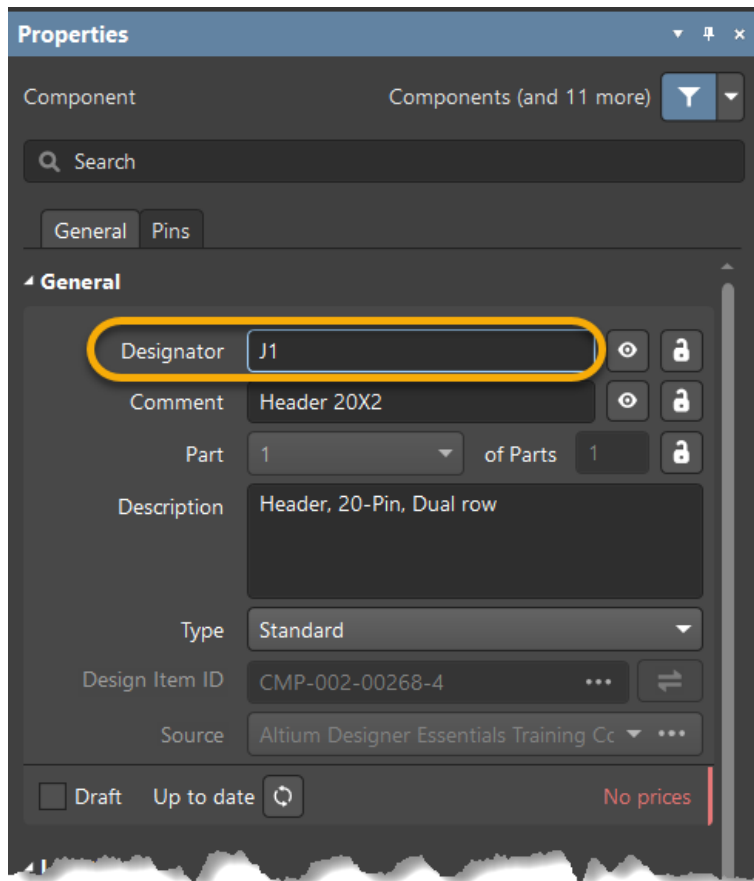

Figure 10. Component Properties dialog
- b) Change the reference designator to J1 as shown in Figure 10.